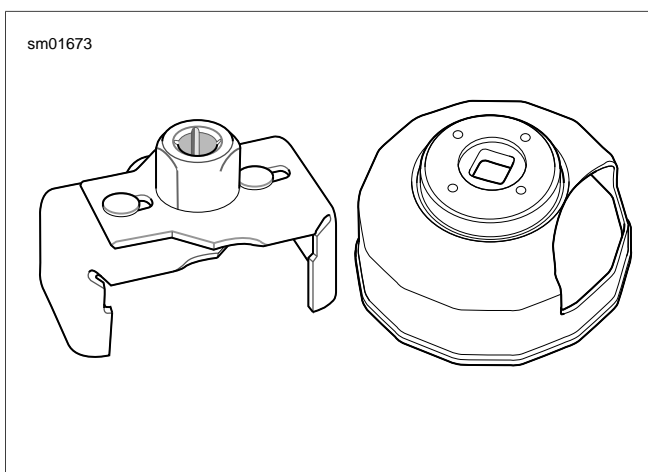
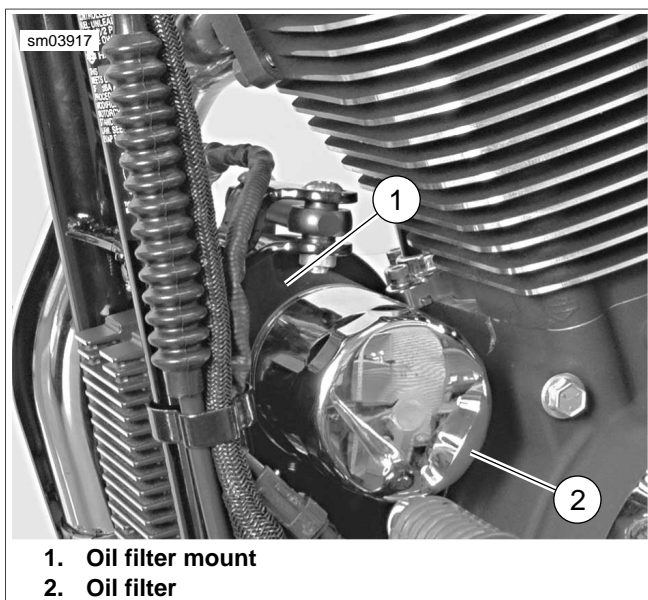

Figure 1-4. Oil Filter Wrenches
Figure 1-6. Oil Filter: All Models (XL 1200C Shown)
- See Figure 1-4. See Figure 1-6. Remove oil filter using HARLEY-DAVIDSON OIL FILTER WRENCH (Part No. HD-42311 or HD-44067-A). Turn oil filter counterclockwise to remove from filter mount.